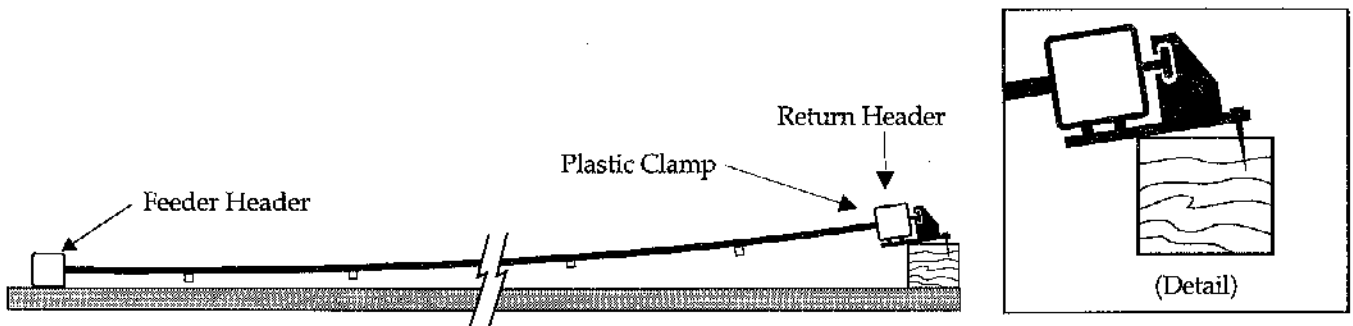

FIG. 8.1
2. Place a 43" section of pressure treated 4 x 4 on the flat roof at the location of each **return** header (see Fig 8.1). Leave a 4" gap between each 43" section to allow water to drain through. Secure the 4 x 4 to the roof with a good quality liquid adhesive.